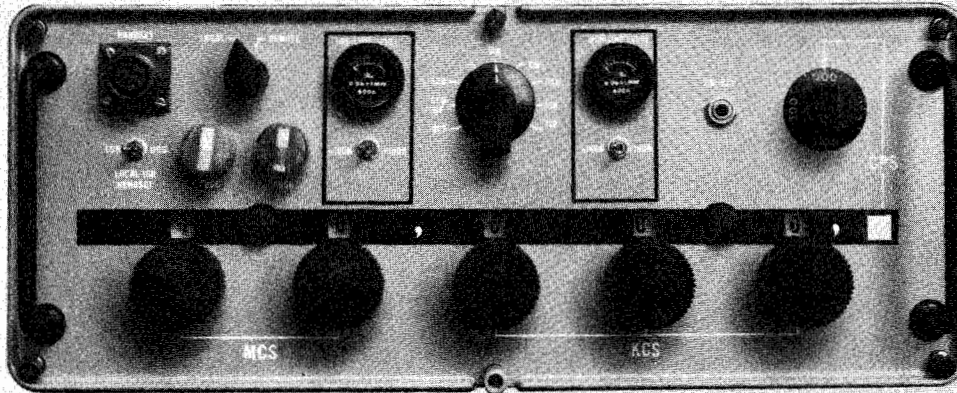

Figure 1-2. Radio Transmitter T-827D/URT
(1) FUNCTION. - The function of the T-827D/URT is to provide a USB, LSB, ISB, CW, RATT, or compatible AM rf signal of sufficient power to drive the AM-3007/URT. The operating frequency range of the T-827D/URT is from 2.0 to 29.9999 megahertz.
(2) PHYSICAL CHARACTERISTICS. - The T-827D/URT (figure 1-2) is housed in a metal case. The front panel is secured to the case by six captive screws. The chassis is mounted to the case on two roller-type slides (one on each side) to facilitate withdrawal from the case. When fully extended from the case, the chassis may be rotated at 90-degree angles for inspection or servicing. All operating controls and indicators are mounted on the front panel. Handles, one on each side, are secured to the front panel to facilitate the withdrawal of the chassis from the case and for transporting the equipment. The chassis contains the chain drive mechanism for tuning, the receptacles for connection of the plug-in electronic assemblies, and a power supply (see figures 1-3, 1-4, and 1-5).
(3) ELECTRICAL CHARACTERISTICS. - The T-827D/URT is an exciter